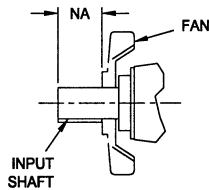

Figure 6.7.2 Dimensions for Location of Fan
- From Figure 6.7.2, determine the distance from the end of the input shaft to the front edge of the fan.